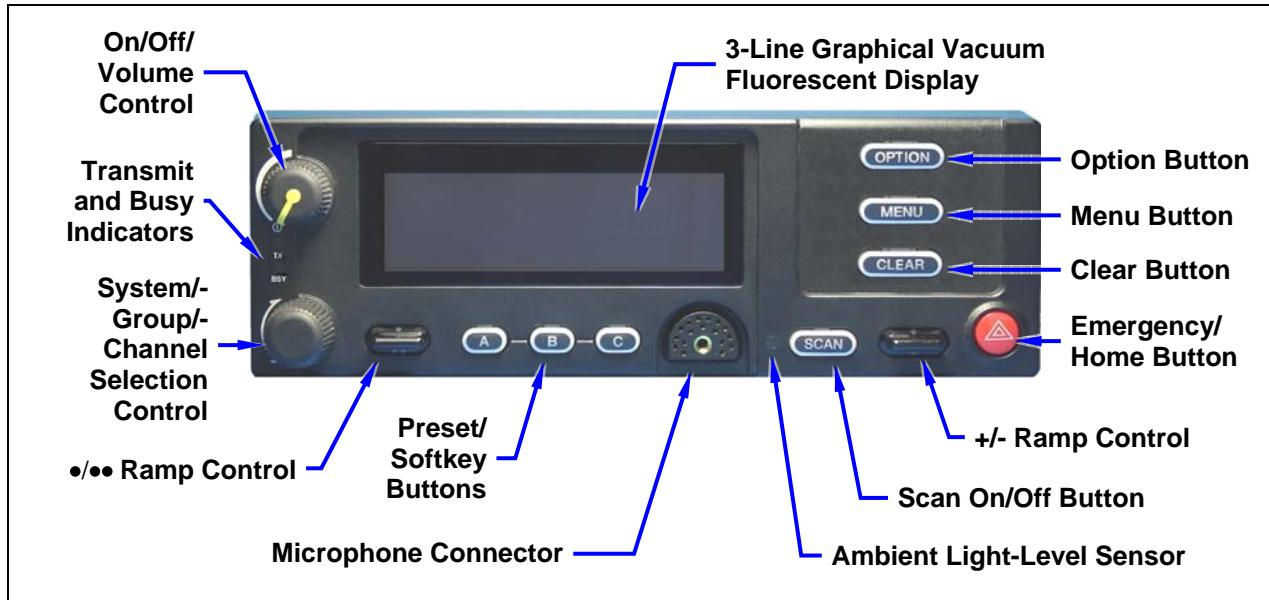
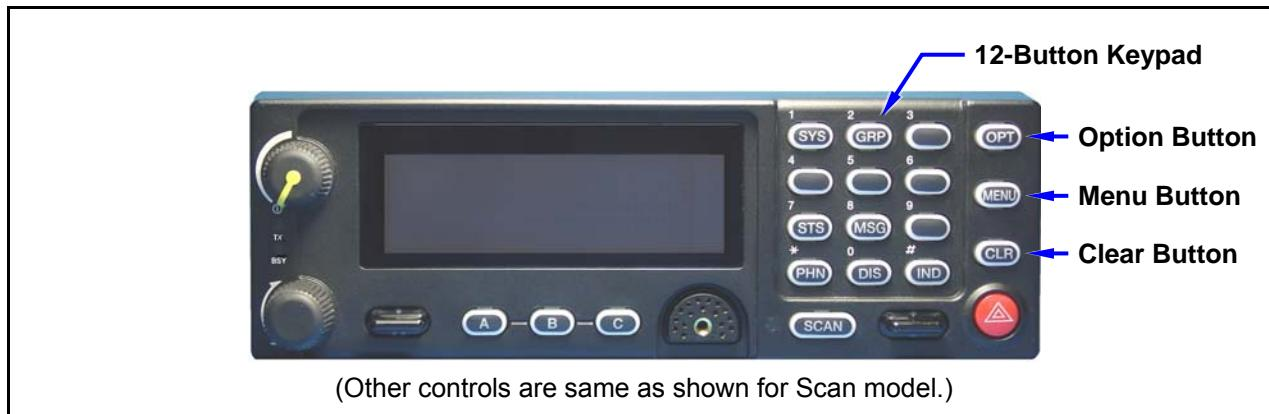

Figure 9-1: CH-721 Scan Model Control Head Front Panel
Figure 9-2: CH-721 System Model Control Head Front Panel
Since the M7200 is a remote-mount mobile radio, each radio must be connected to a control head to provide the operator-to-radio interface. Two different control heads are available—the CH-721 Scan model and the CH-721 System model. See Figure 9-1 and Figure 9-2 respectively. The CH-721 Scan model control head features three (3) large menu selection buttons. The System model control head has a 12-button keypad to allow advanced operations without the need of a DTMF-capable microphone.